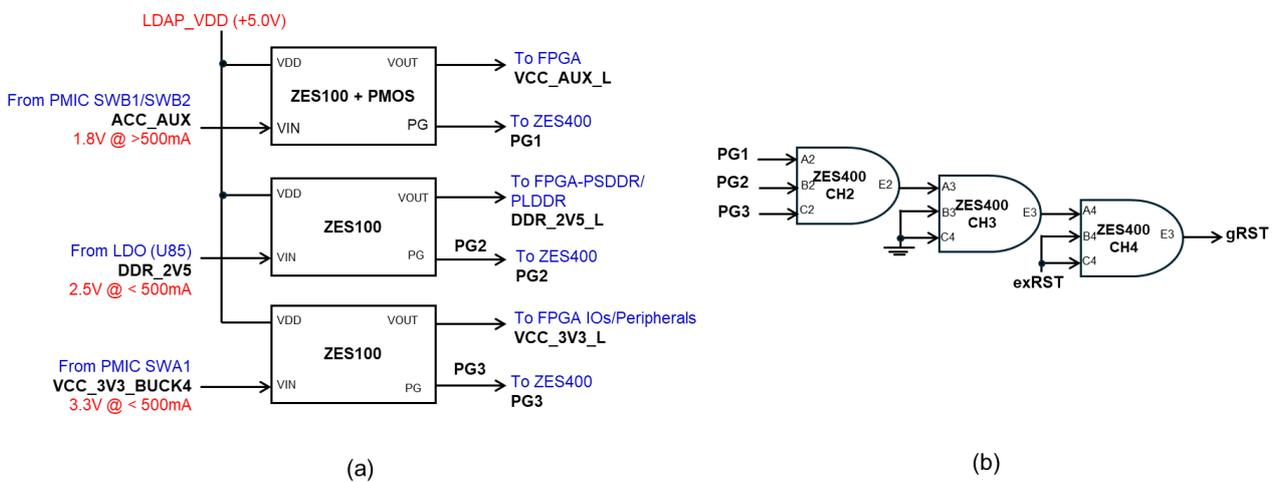

Figure 10: (a) Connection diagram of the three ZES100 LDAP-ICs for SEL detection/protection, (b) the reset mechanism via ZES400 Voter-IC
ZSOM-F01 embodies three ZES100 LDAP-ICs to protect the SEL-sensitive local power supplies, namely VCC_AUX_L @ 1.8V, DDR_2V5_L @ 2.5V, and VCC_3V3_L @ 3.3V. Figure 10 (a) depicts the simplified connection diagram of these three local power supplies. As VCC_AUX_L is expected to deliver > 500mA, a discrete PMOS is used together with an ZES100 LDAP-IC. Whereas DDR_2V5_L and VCC_3V3_L are delivering < 500mA, the ZES100 LDAP-ICs per se (i.e., without a need of discrete PMOS) are sufficient to deliver the current. Figure 10 (b) depicts the connection diagram how to power-cycle the ZSOM-F01 once an SEL is detected, i.e., triggered by the Power Good (PG) signals of ZES100 LDAP-ICs. This triggering is via the three voting channels (CH2, CH3 and CH4) of ZES400 Voter-IC. Particularly, the ZES400 Voter-IC will receive the PG signals of ZES100 LDAP-ICs, and trigger the global reset signal (gRST) to reset the PMIC and the connecting FPGA.